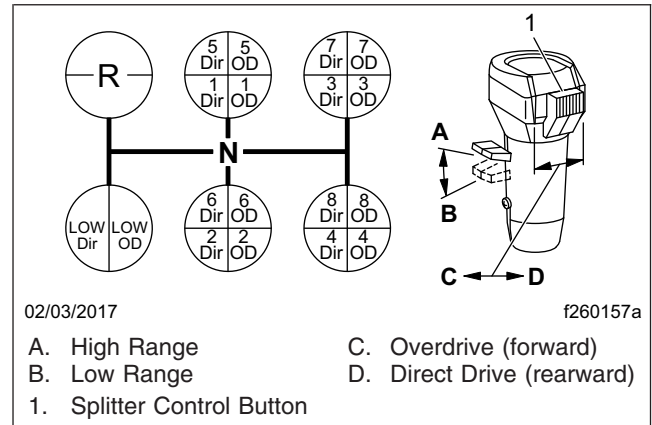

Fig. 16.2, Eaton Fuller 18-Speed Transmission Shift Pattern
2. Position the range preselection lever down, into low range. See Fig. 16.2.
3. Make sure the splitter control button is in the direct (rearward) position. See Fig. 16.2.
Shift upward from low overdrive to 1st direct by first moving the splitter control button into the direct (rearward) position (**Fig. 16.2**). Move the shift lever, double-clutching, to the 1st gear position.
To shift from 5th direct to 5th overdrive, move the splitter control button (**Fig. 16.2**) into the overdrive (forward) position, then immediately release